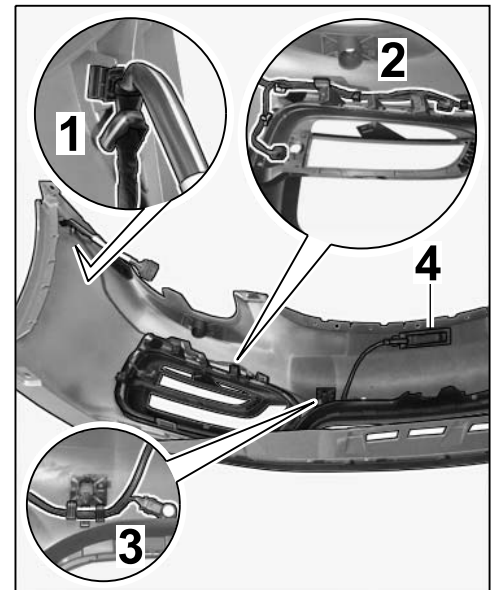

Figure 9
- 3 – Line routing in ParkAssist (636) area
- 4 – KESSY control unit (625)
- 4.5.1 **ONLY** for vehicles with front ParkAssist (I-no. 636 ⇒ *Figure 9 -3-*):